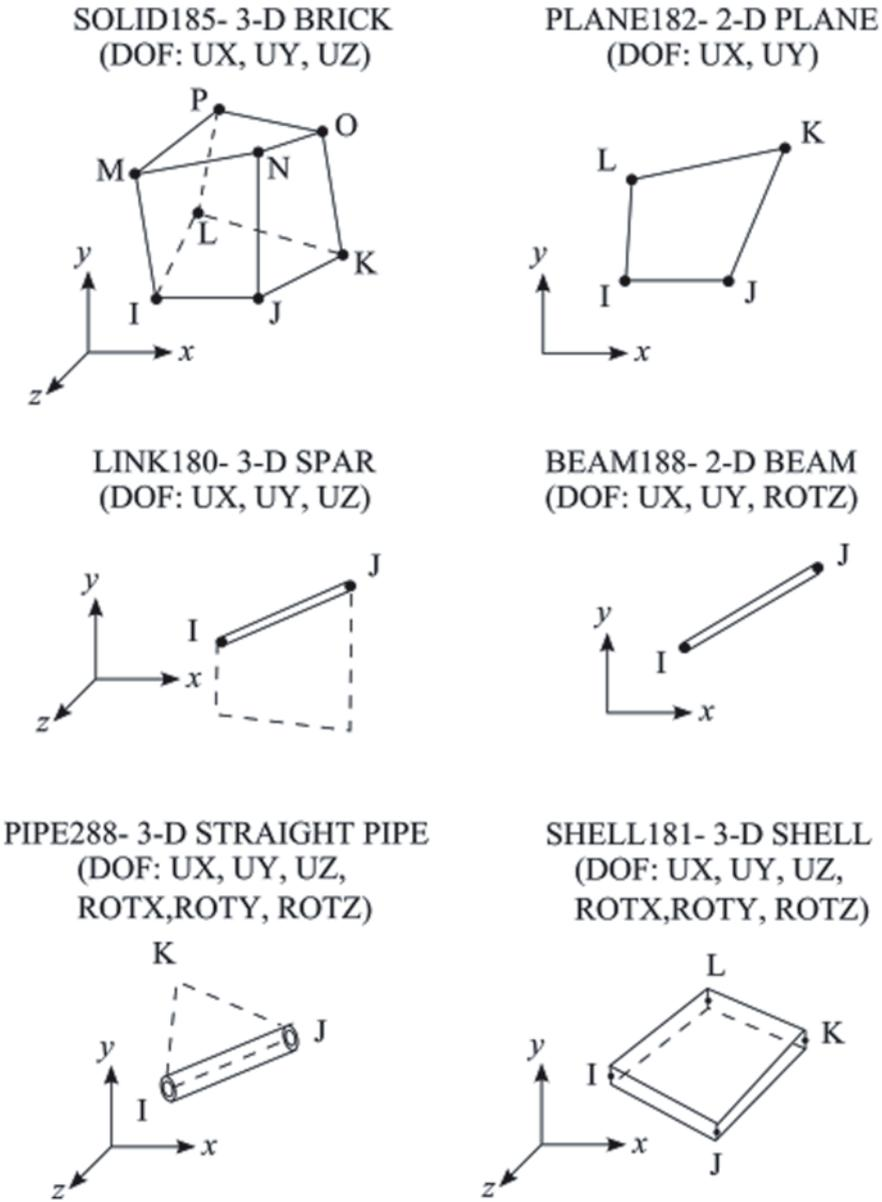

Fig. 4.2 Examples of structural elements in ANSYS
1. **Structural**: For this group of elements, the degrees of freedom at the nodes are displacements. As shown in Fig. 4.2, the structural analysis employs plane, link, beam, pipe, solid, and shell elements. All of the above “subgroups” of elements include several *element types* with different degree-of-freedom (DOF) sets. Consider the entries **Quad 4node 182**, **Quad 8node 183**, and **Brick 8node 185** from the *Structural Solid* subgroup. The first two elements types, **Quad182** and **Quad183**, are used for two-dimensional structural problems (plane stress, plane strain, or axisymmetric) whereas the third one is used for three-dimensional structural problems. The difference between **Quad182** and **Quad183** elements is that they have a different number of nodes per element, which implies that they are employing different interpolation functions for the variation of the degrees of freedom along the edges of the element. In this particular case, the variation of displacements along the element edges is assumed to be linear for **Quad 4node 182** and quadratic for **Quad 4node 183**, as shown in Fig. 4.3. The interpolation functions for the **Brick 8node 185** element are linear.